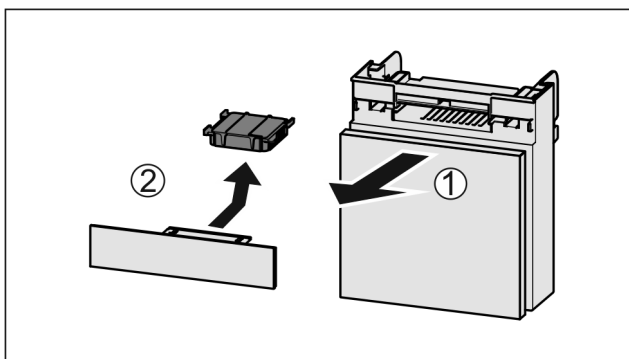

Fig. 172
- ▶ Pull out the compartment Fig. 172 (1).
- ▶ Remove the carbon filter Fig. 172 (2).